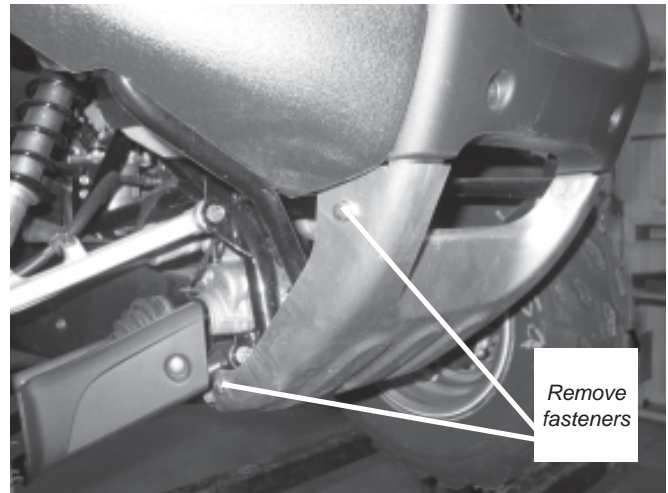
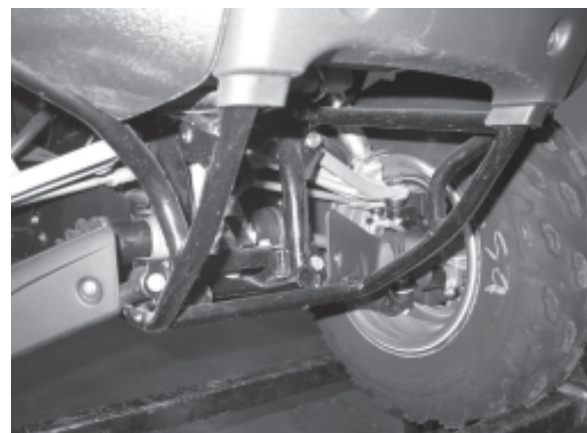

Figure 1
Figure 9b
1. Remove the front aluminum skid plate on the vehicle, as show in Figure 1. Save the fasteners as they will be used later to reattach the skid plate.
1. Remove the front aluminum skid plate on the vehicle, as shown in Figure 1 of previous section. Save the fasteners as they will be used later to reattach the skid plate. Figure 9b shows the vehicle frame where the plow mount assembly will be mounted.